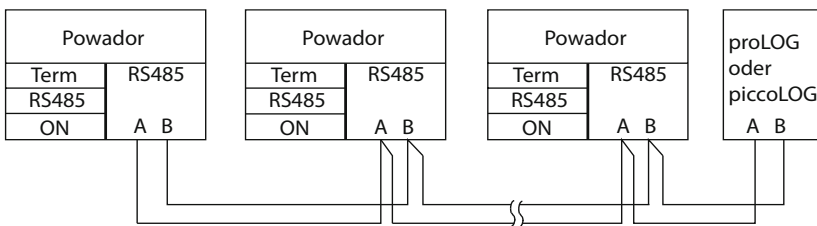

Figure 18: RS485 interface wiring diagram
- Wire B (+) with wire B (+) (see Figure 18 on page 27)
7. This termination does not depend on the manner of cabling that is used. The switch is found on the board next to the terminal block. (See Figure 18 on page 27)